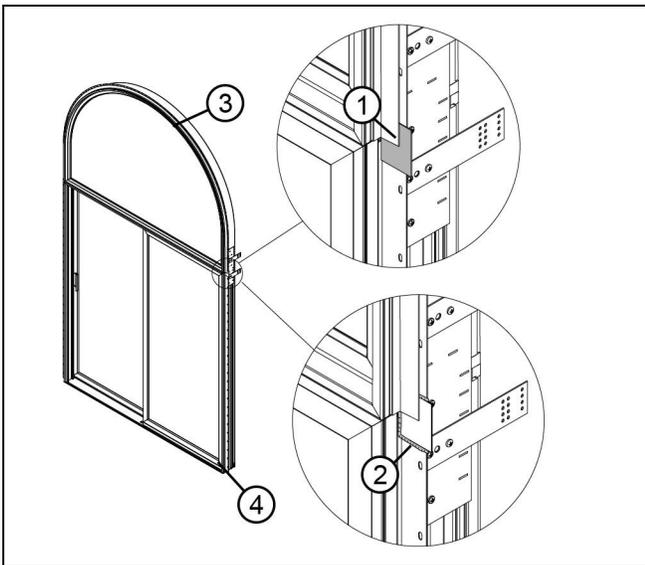

Figure 47
12. Apply nailing fin connectors to exterior as shown in Figure 47.